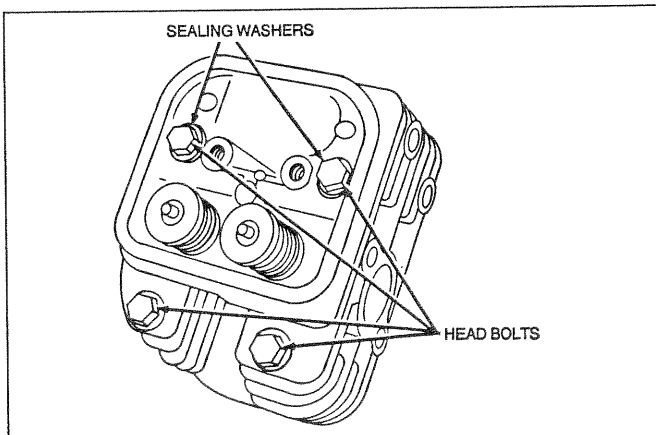

Figure 87. Removal of Cylinder Head Bolts
- See Figure 87. Remove four cylinder head bolts.